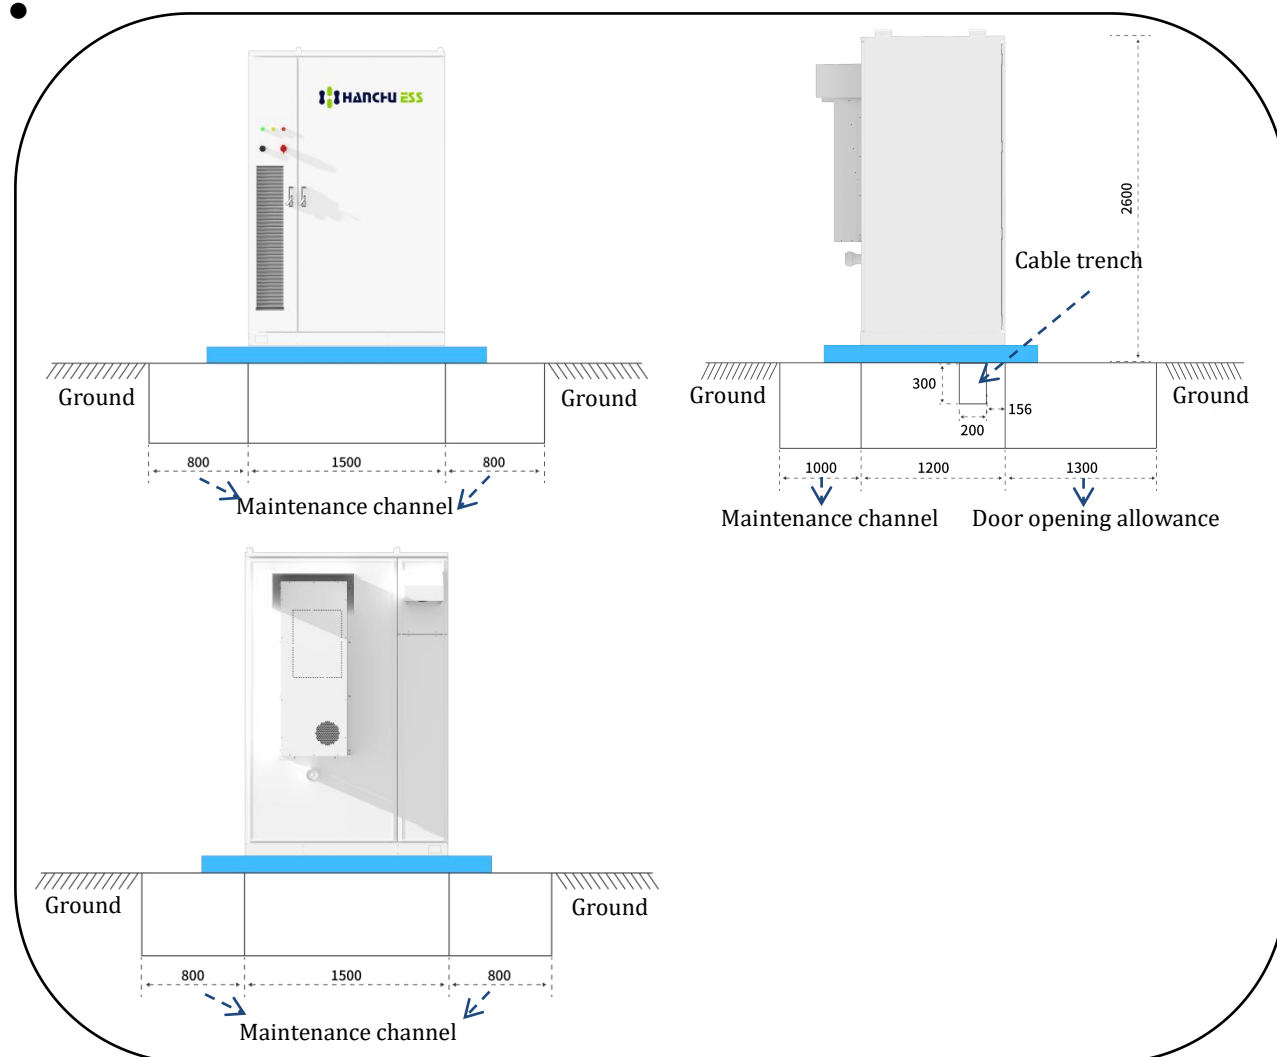

Figure 1 Equipment installation in place
- According to the product size in advance to select the equipment installation location, good positioning and fixing, the proposed foundation as shown in Figure 1;